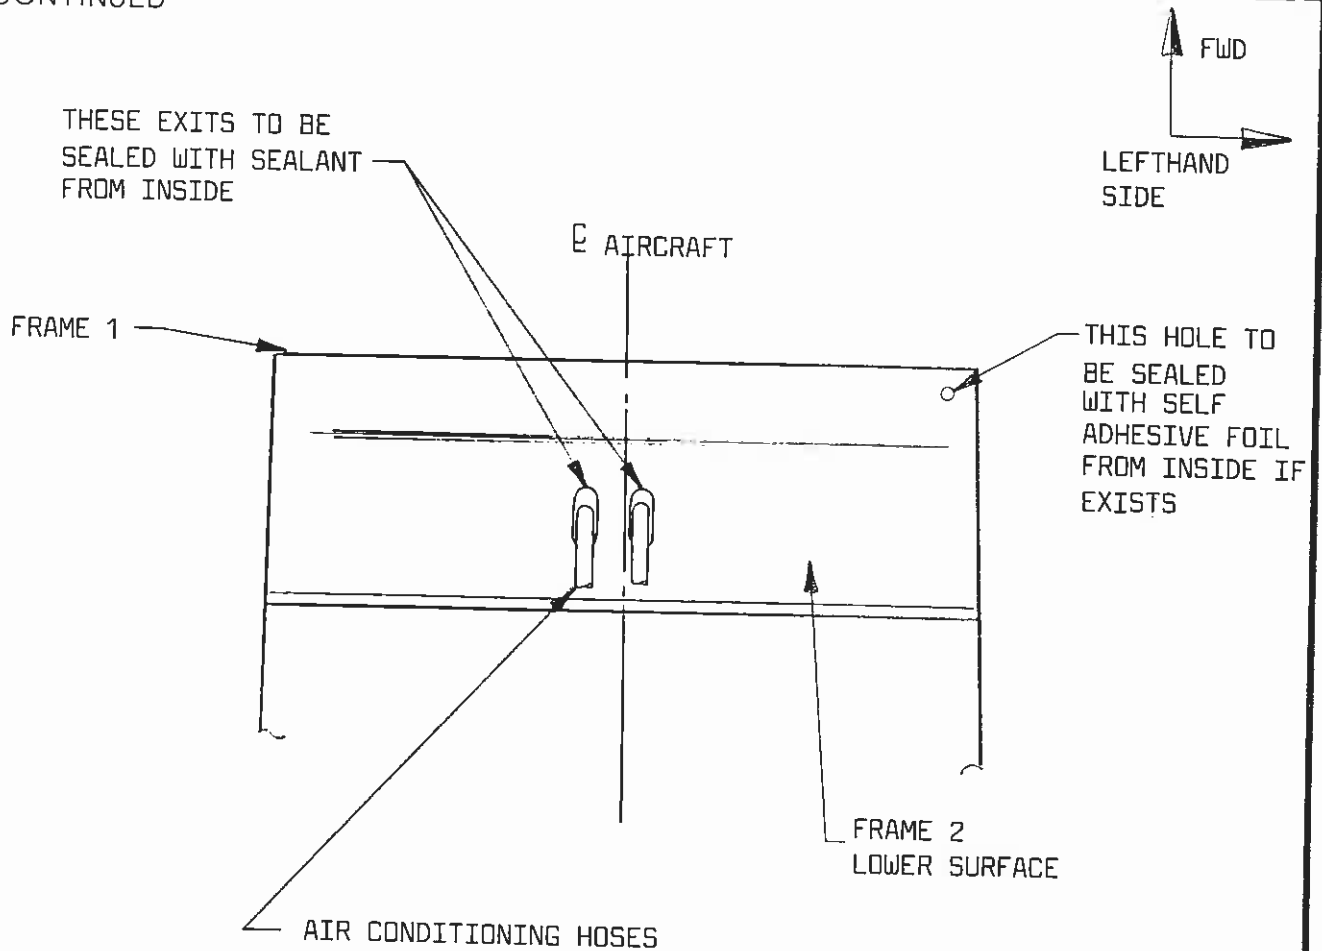

FIG 1
1. From the underside of Frame 2, check suspect areas for sealant. Refer Fig. 1.